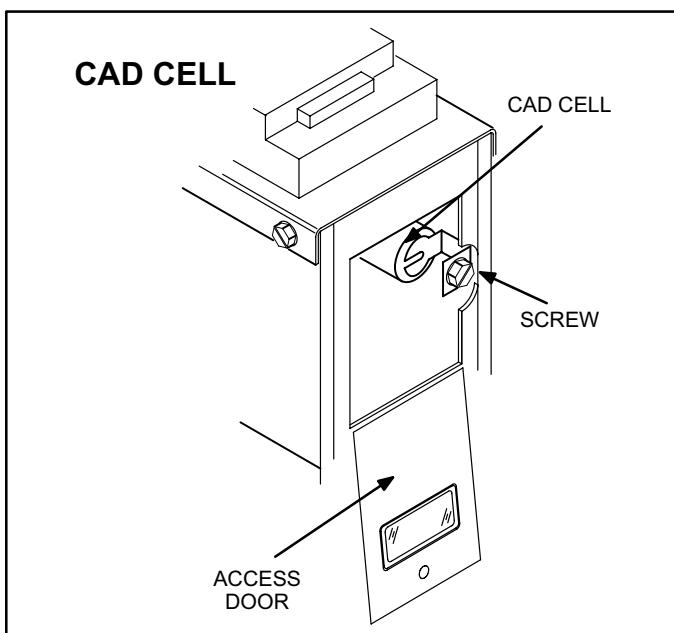

FIGURE 22
- 2 - The cad cell will be located on the right side of the chassis wall hung on a bracket. See figure 22.